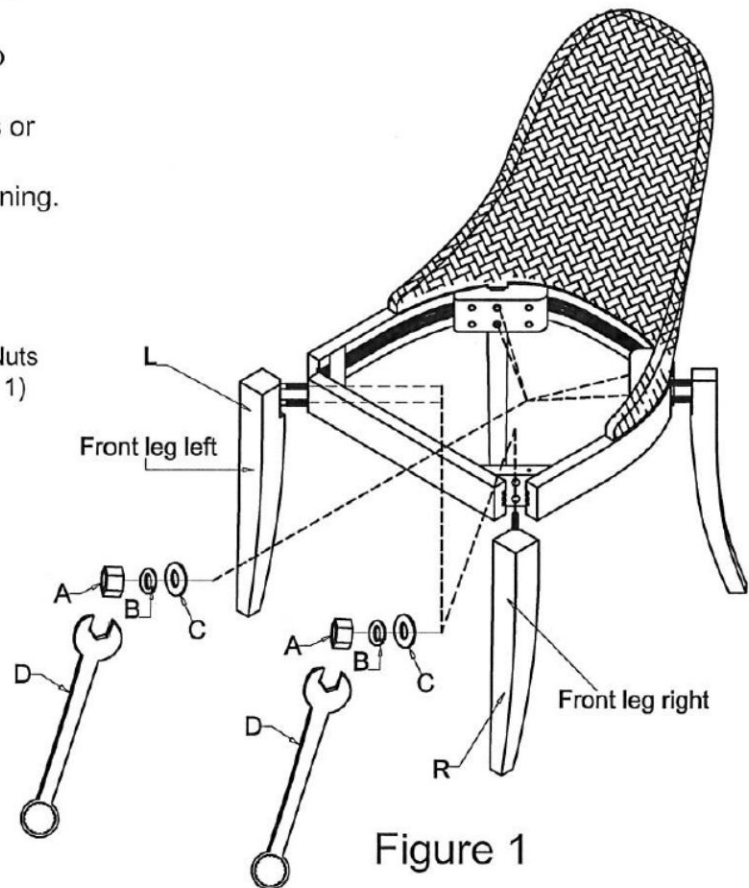

Figure 1
1. Attach the front leg to the front corner block of the chair seat, using Flat Washer (C), Lock Washer (B), Nuts (A) and tighten all nuts with Wrench (D). (See Figure 1)